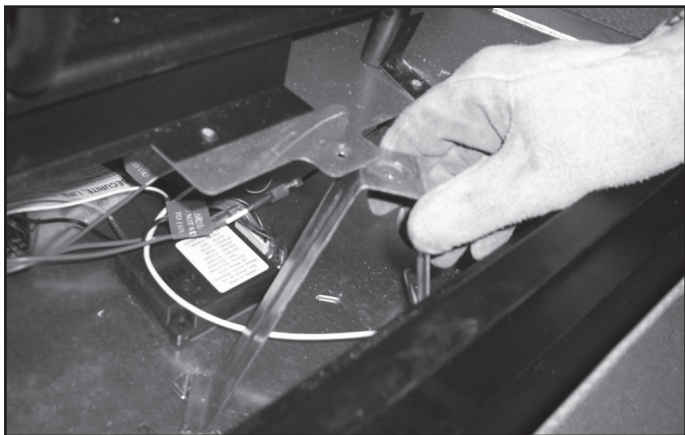

Figure 14.3 Rotate Support
- Rotate the support (Figure 14.3), remove and discard.